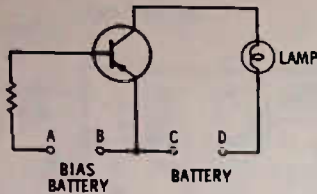

Fig. 8-17. Circuit for Questions 6 and 7.
- In Fig. 8-17, the polarity of battery voltage for normal operation of this circuit should be
- The transistor in Fig. 8-17 is